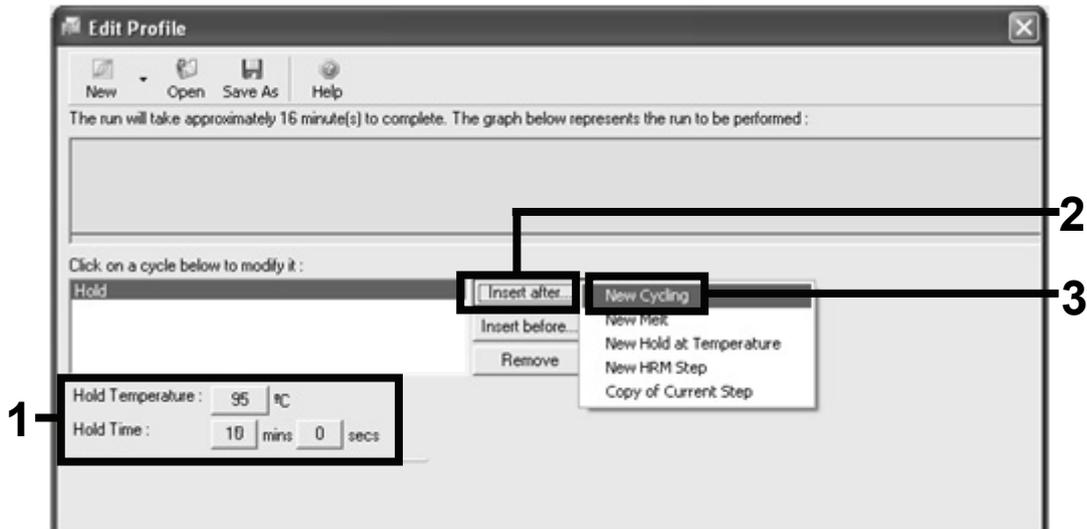

Figure 5. Initial incubation step at 95°C.
12. Change the "Hold Temperature" to 95°C, and the "Hold Time" to 10 mins. Click the "Insert After" button and then select *New Cycling* (Figure 5).